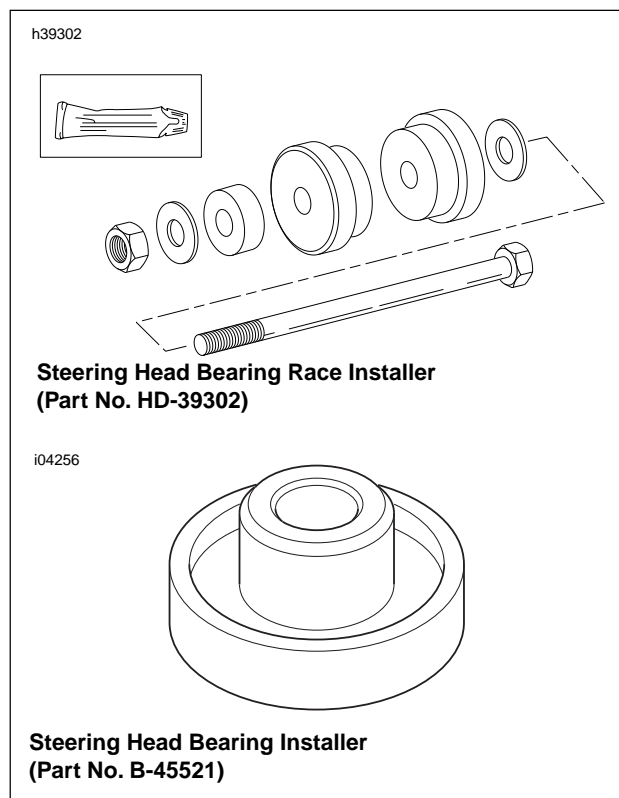

Figure 2-71. Steering Head Bearings Installation Tools
1. See Figure 2-71. Install **new** upper and lower steering head bearings into the steering stem using STEERING HEAD BEARING RACE INSTALLER (Part No. HD-39302), and the STEERING HEAD BEARING INSTALLER (Part No. B-45521).
- b. See Figure 2-71. Insert the steering head bearing installation tool into the upper bearing, with the shoulder into the bearing bore.